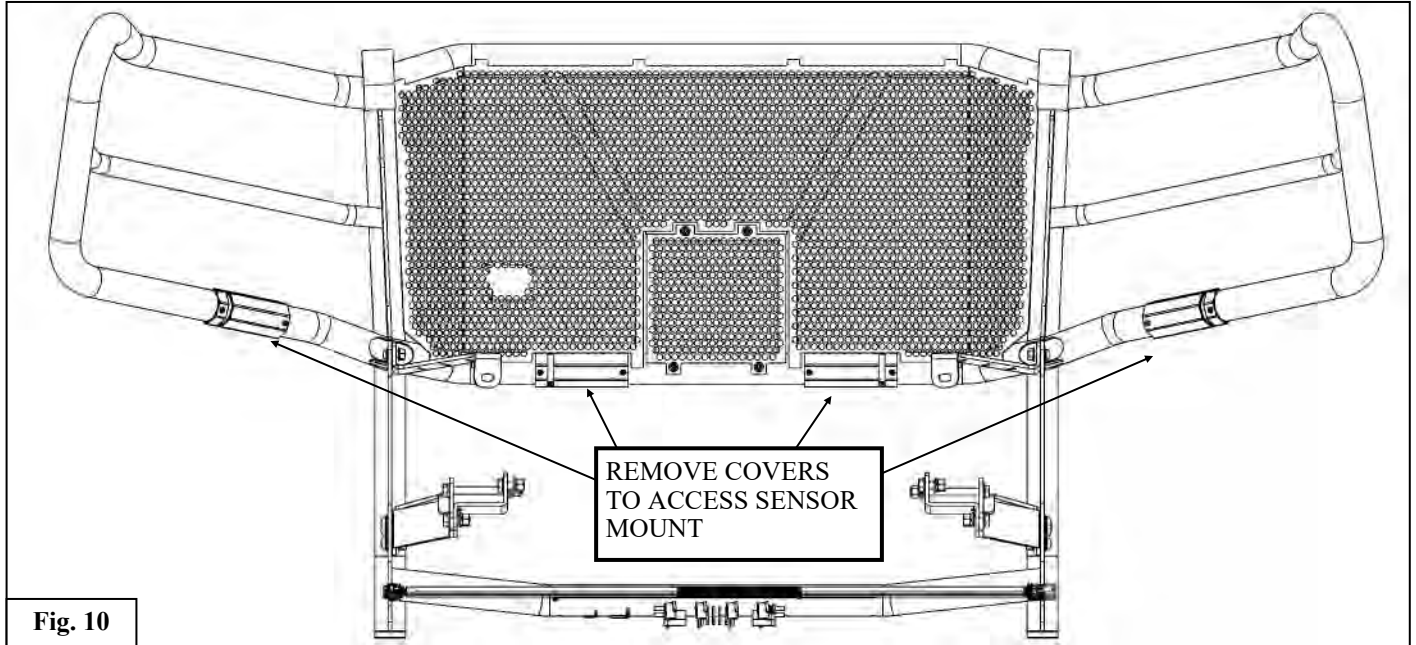

Fig. 10
12. Mount the sensors onto the Grille Guard (1) in the same orientation that they were on the OEM bumper using the Sensor Tabs (27-28) and the provided M6 hardware. See **Figure 10,11, & 12.**